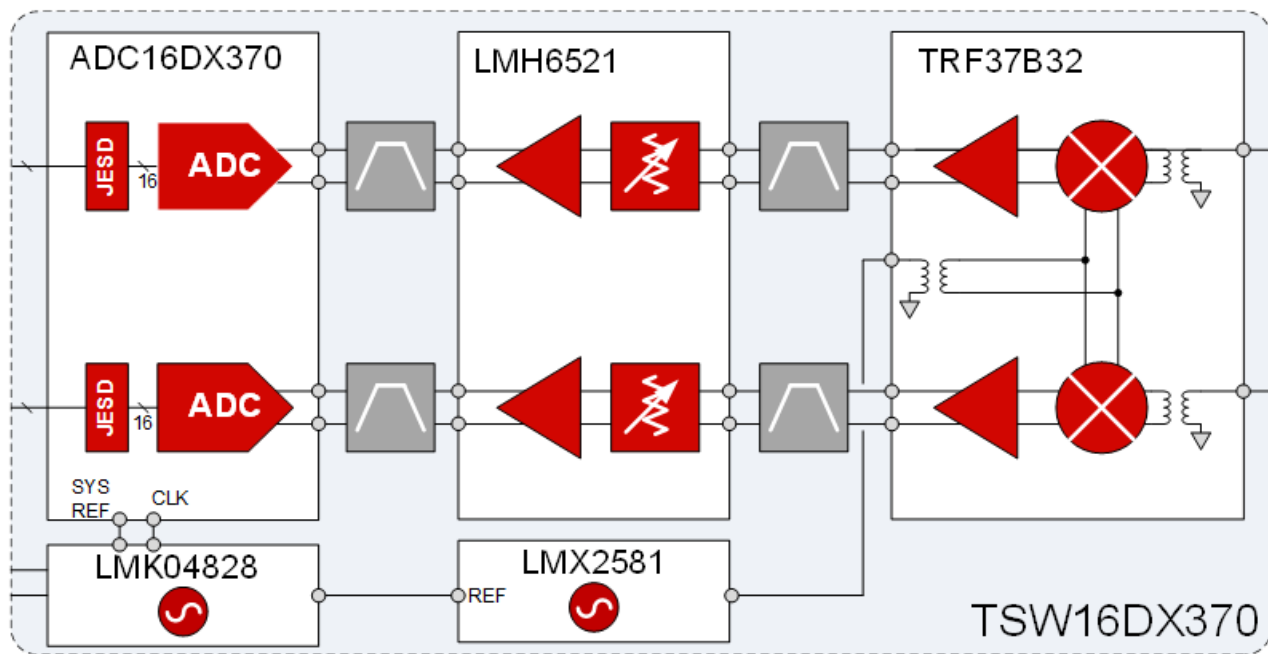

Figure 2. TSW16DX370 Receiver System Reference Design
The TI Designs 700-2700MHz Dual-Channel Receiver with 16-Bit ADC and 100MHz IF Bandwidth Reference Design (TIDA-00360) showcases the TSW16DX370 evaluation module (EVM) which is a super-heterodyne receiver applicable for active antenna-array systems. Figure 2 shows the block diagram. This reference design uses the TRF37B32 dual mixer to convert input RF signals to an intermediate frequency (IF). The mixer has excellent gain, noise figure and input-linearity performance for any high-end communication system. The